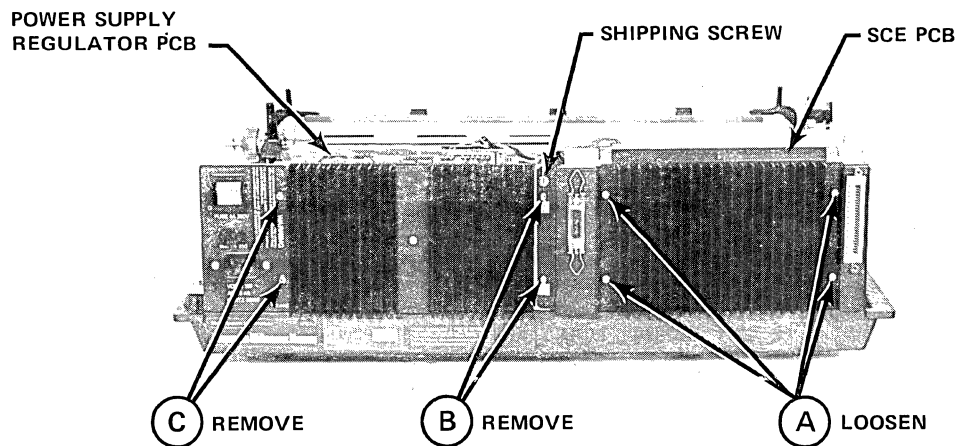

Figure 4-8. MOUNTING SCREWS FOR SCE AND P/S REGULATOR CIRCUIT BOARDS
- 5) Loosen the four screws (A) holding the SCE board assembly in position as shown in Figure 4-8.
- 4) Refer to Figure 4-8.